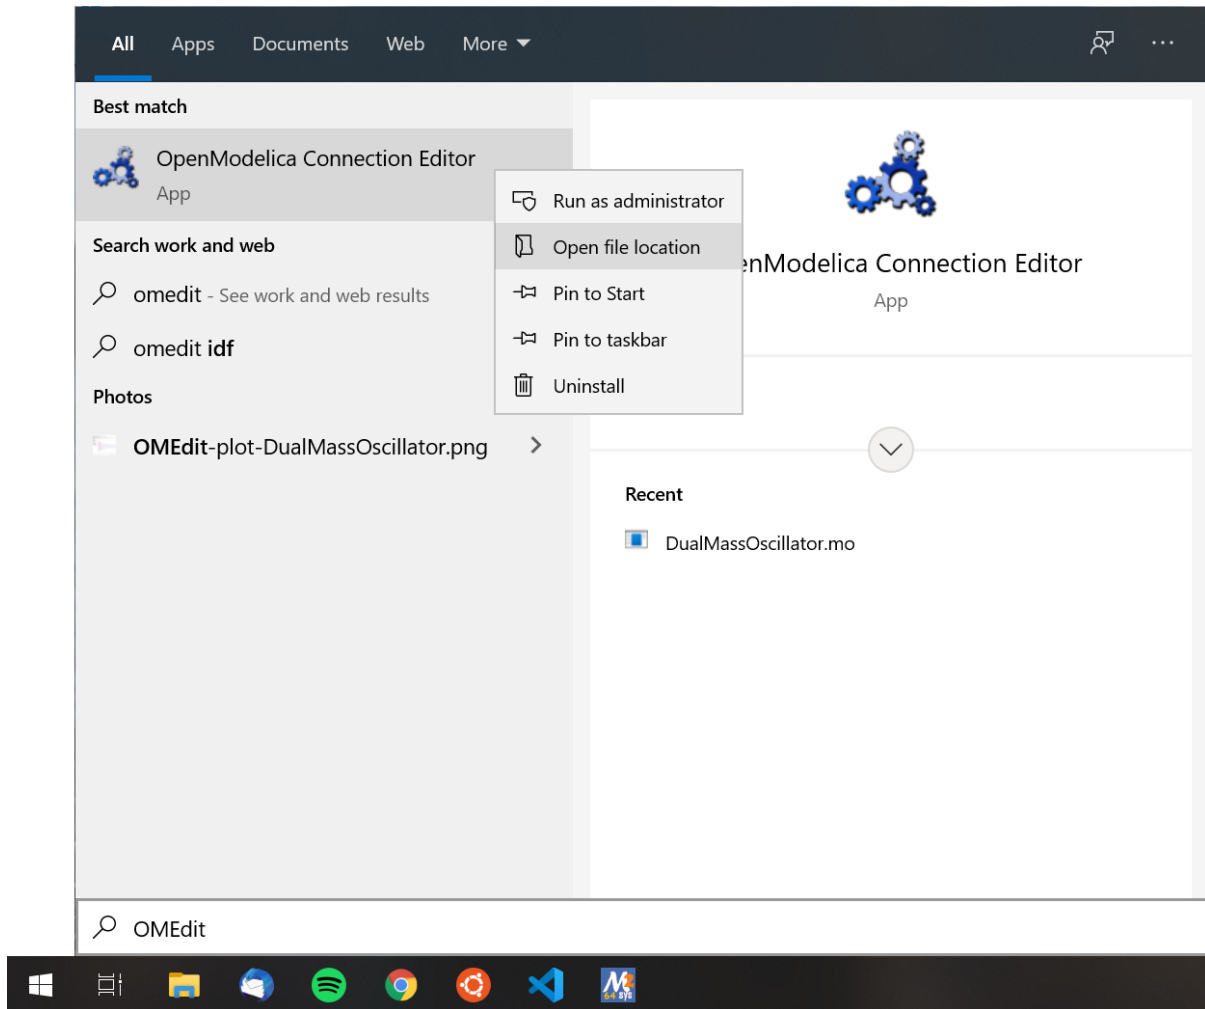

Figure 3.24: Open file location of OpenModelica Connection Editor
1. Press *Windows-Key* and type *OpenModelica Connection Editor* and right-click on the app and *Open file location*, Figure 3.24.